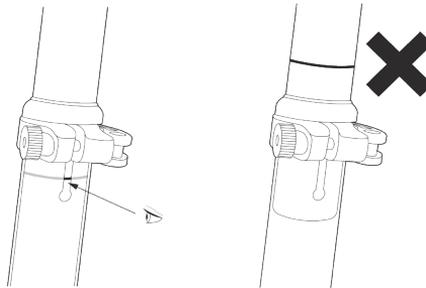

fig. 4b
**NOTE:** Some bicycles have a sight hole in the seat tube, the purpose of which is to make it easy to see whether the seat post is inserted in the seat tube far enough to be safe. If your bicycle has such a sight hole, use it instead of the “Minimum Insertion” or “Maximum Extension” mark to make sure the seat post is inserted in the seat tube far enough to be visible through the sight hole. (See fig. 4b)